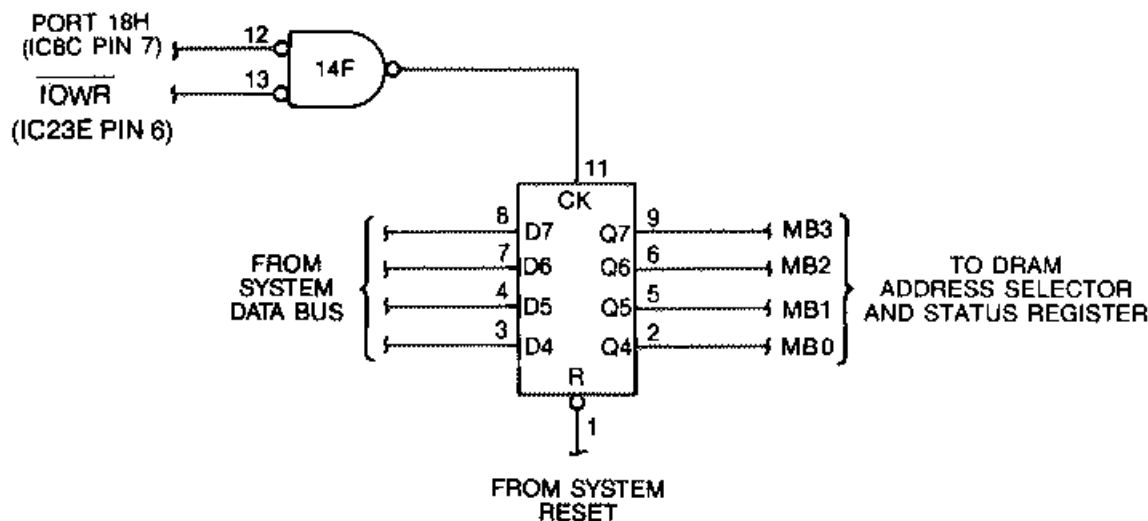

FIGURE 2-43. Z-80A DRAM BANK SELECT CIRCUIT
2.3.2.11 Z-80A DRAM Bank Select Circuit (Figure 2-43)